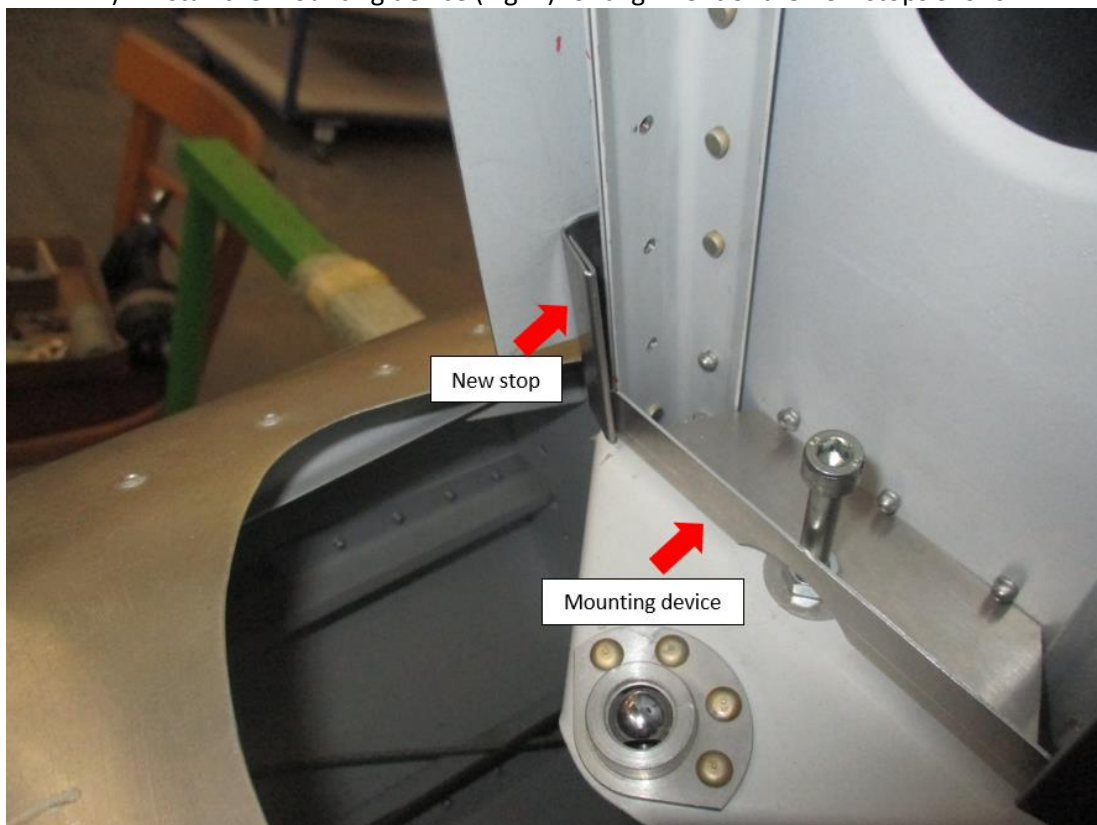

Fig. 2: Mounting device
- 7) Install the mounting device (Fig. 2) for alignment of the new stops SF0262LP.